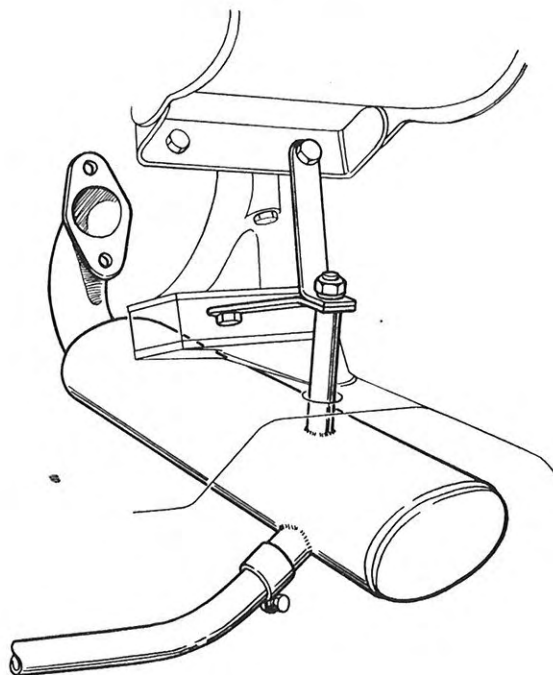

Fig. 9. Muffler suspension
8. Loosen the muffler suspension, see Fig. 9.